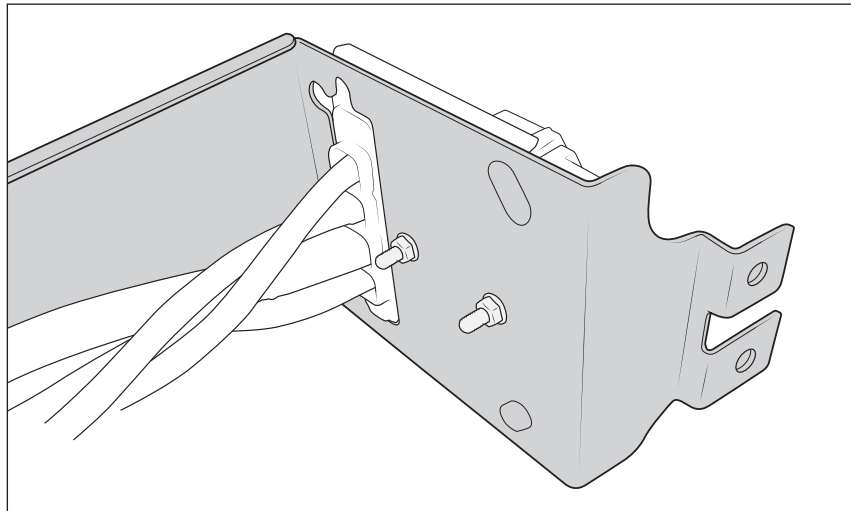

Figure 11
6. Mount the controller to the bracket using QTY 2 flange nuts provided. (fig. 11).